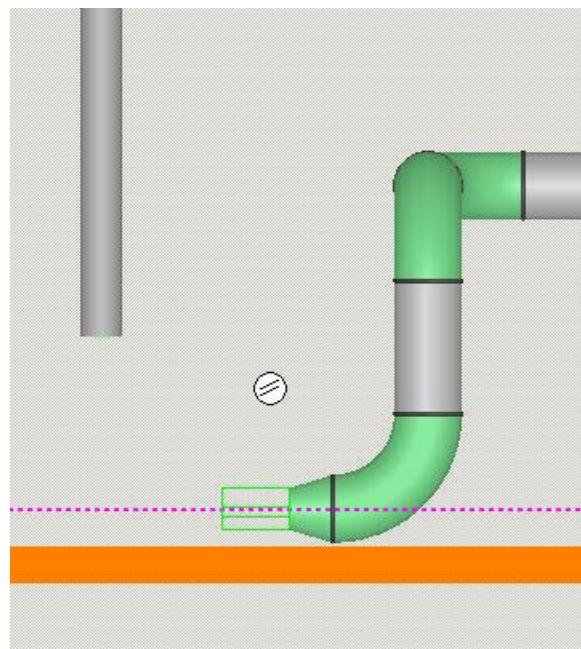

Figure 16.9: Concentric Reducer Insertion
- 17) Choose <New Pipe Run> and change the **Nominal Diameter** to 6 in. Click **OK**. The graphic display should be similar to Figure 16.9.